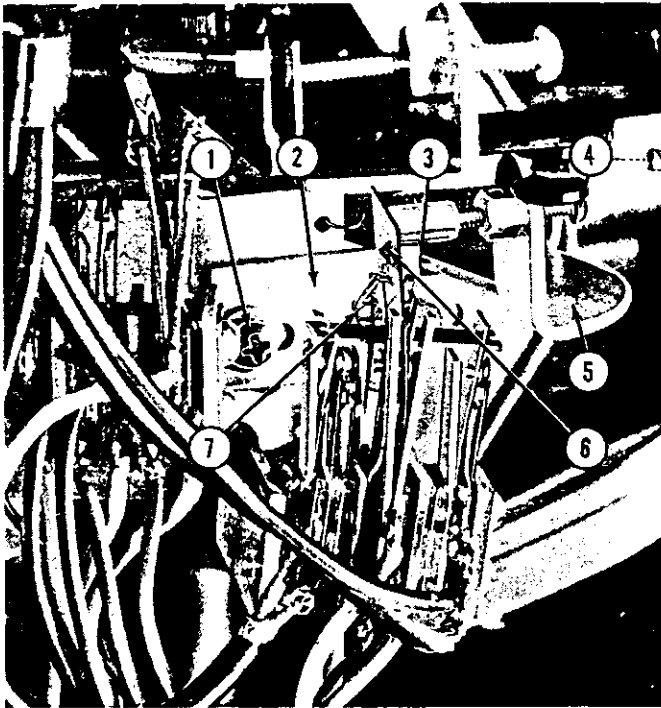
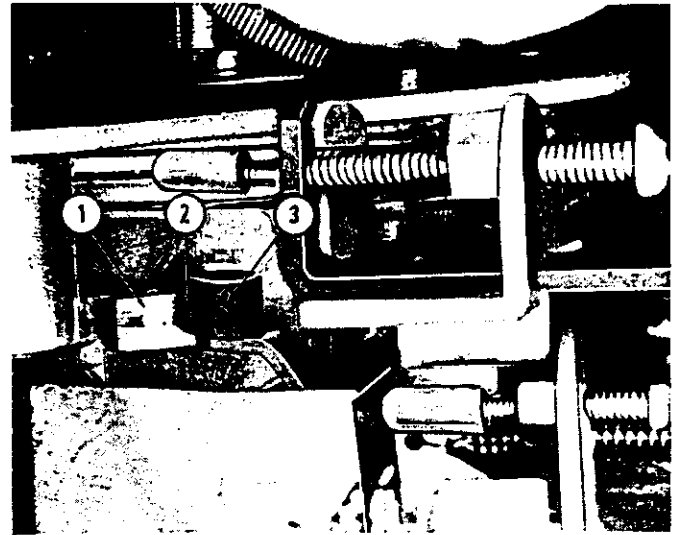

Fig. 69. STOP PLATE SETTING, MUTE AND PLAY SWITCH ACTUATING ARM
Fig. 70. STOP PLATE SETTING, MUTE AND PLAY SWITCH
(2) With the roller (Item 3, Fig. 70) of the mute and play switch actuating arm at the base of the mute and play cam but still on the main cam adjust the stop plate (Item 2, Fig. 69) to provide 0 to 1/64" clearance between the roller and the cam as shown in Item 2, Fig. 70.
(3) Set the actuating screw of the mute and play switch actuating arm (Item 4, Fig. 69) to allow 1/32" to 1/16" over-travel of the switch tab after the switch has actuated over-center, under the spring loading of the actuator arm. Check for proper action with the roller of the arm on top of the mute and play lobe in the play position. Too much over-travel of the switch at the original setting may produce improper action of the switch in the play position. In some cases it may be necessary to slightly reduce switch over-travel to obtain proper action in the play position.
(4) To check for proper action under operating conditions, cycle the mechanism to the play position and observe the turntable cam during trip switch operation. If there is any forward movement of the turntable cam when the trip switch actuates, the